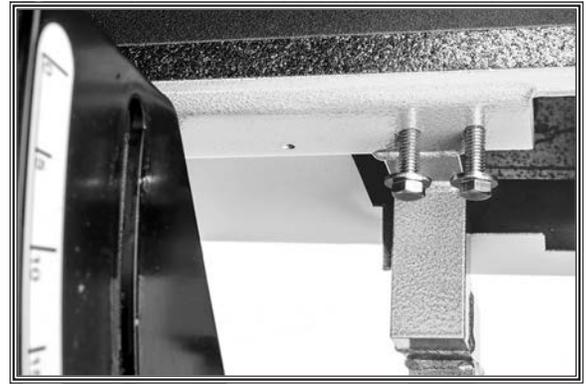

Figure 7. Backstop bolts.
9. Place a flat washer on each hex bolt and thread approximately one turn into holes in platen, as shown in **Figure 7**.